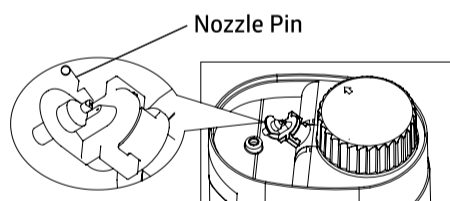

Fig. 1
7. If heater tank does not generate steam, or water is not coming from the furnish tank, turn off the device and unplug it from the mains. Then carefully insert the included nozzle pin into the heater reservoir (nozzle) and/or furnish tank to clear them, as shown in Figure 1. Do not use other pins except the attached one to avoid damage to the device.